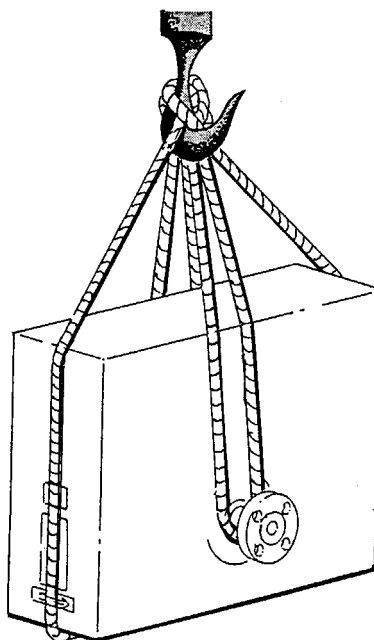

Figure 2. Support Required when Moving a Flowtube
- ◆ Smaller flowtubes can be removed from the shipping container and installed between the upstream and downstream pipe connections by hand lifting and carrying. However, to avoid personal injury and/or damage to the flowtube, larger flowtubes must be lifted and restrained as shown in Figure 2. Note that in addition to using the upstream and downstream connections, the flowtube must also be restrained at both sides to prevent rotation as the flowtube is lifted.